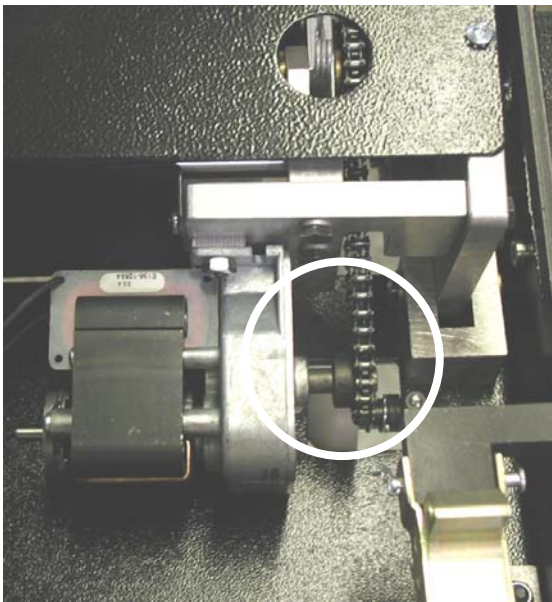

Figure 3-14
2. Locate the oil transfer roller chain at the left rear of the machine, as shown in Figure 3-14.